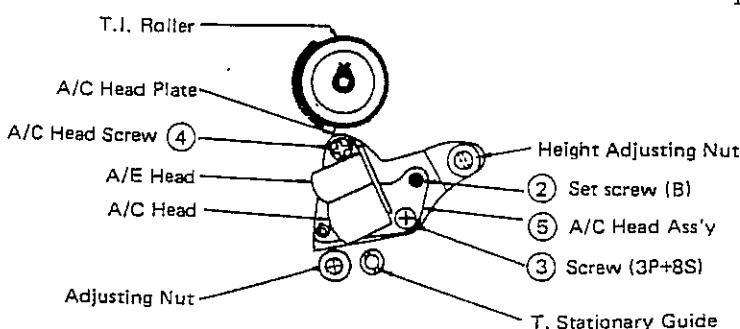

Figure 23
- 1) If an abnormality can be seen in the travel mode, carry out the following adjustments with reference to figures 23 and 25.
4. If adjustment is needed, adjust by means of the set-screws (B in figure 23). Turn screws B slightly,
- 2) 1. Adjust the Audio Head tilt angle with the height adjustment jig and setscrew B as shown in Fig. 23.